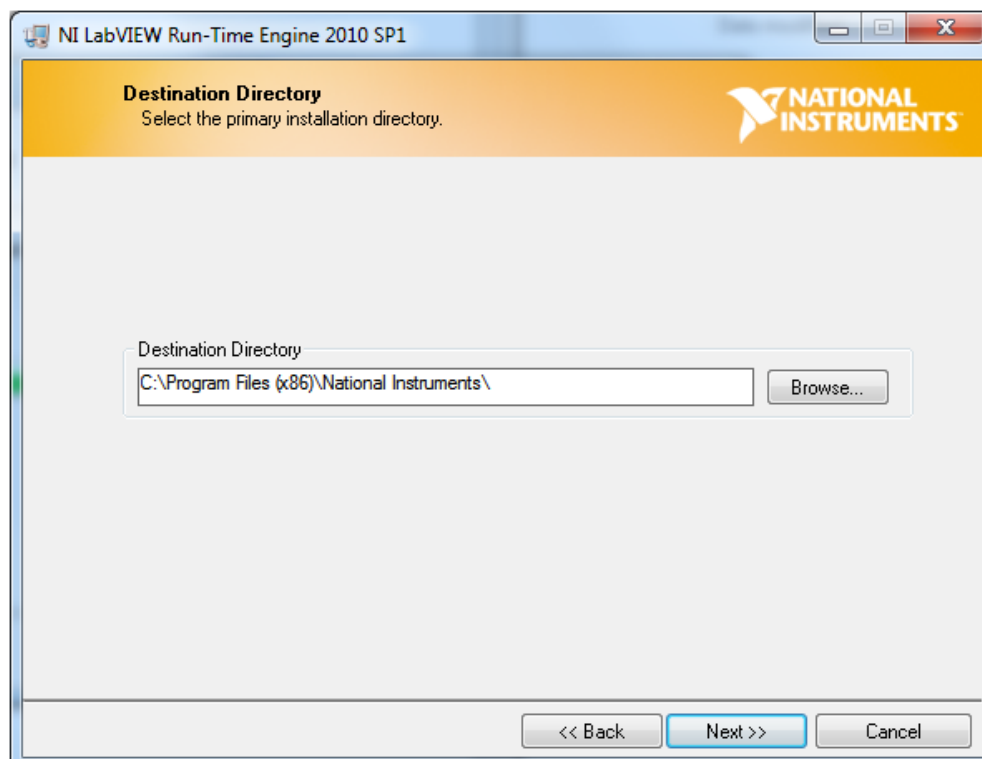

Figure 41. HMC-DAQ GUI Install (LabVIEW Run-time Engine Installation)
8. Press the *Next* button, as in Figure 41.